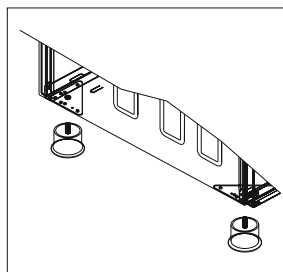
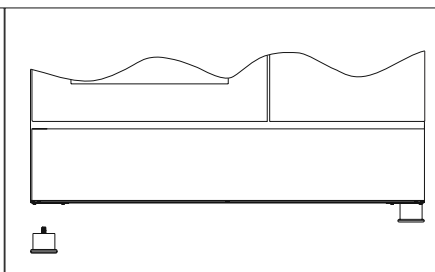

Figure 10
Figure 11
1. Foot attachment lath is installed on the oven from the bottom of the oven as shown in (figure 10). Nuts are centered on these lathes in order to screw feet. Complete the feet installation process by screwing the feet to the nuts (figure 11).